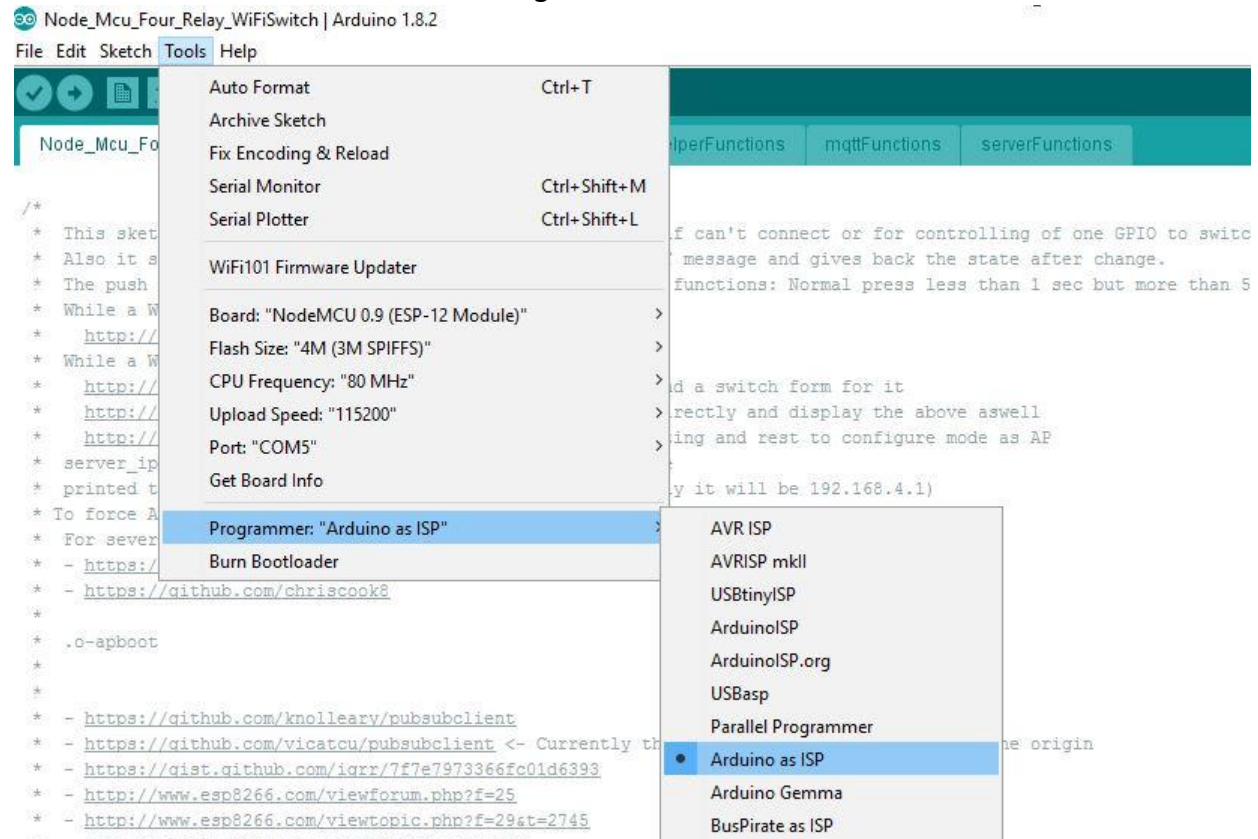

Figure 15: IDE Selection
10. Click on tools tab, move mouse pointer to “Programmer: “Arduino as ISP””, under this click on “Arduino as ISP” to select. Refer to figure 15.